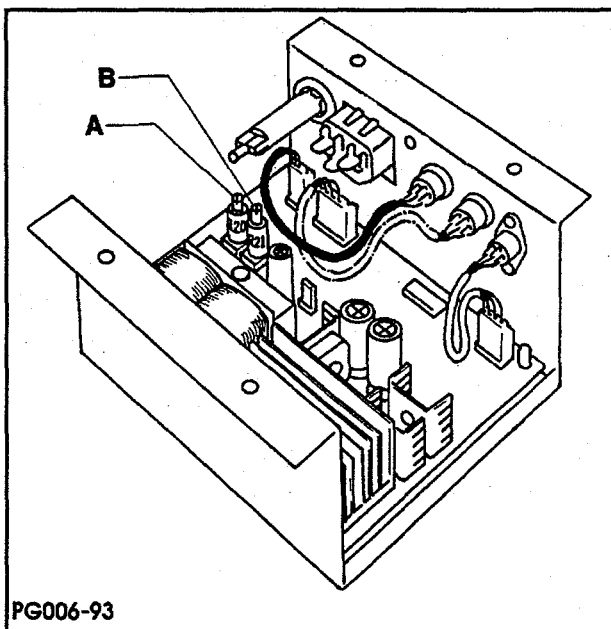

FIG. 26
1. The stepping motor current (while stepping) can be adjusted at potentiometer number R20 (A, Fig. 26) on the driver box. Turn clockwise to increase the current. Use minimal current to increase the life of the motor.
2. The stepping motor current (while at rest) can be adjusted at potentiometer number R21 (B) on the driver box. Turn clockwise to increase the current. Too much current may overheat the motor at rest.